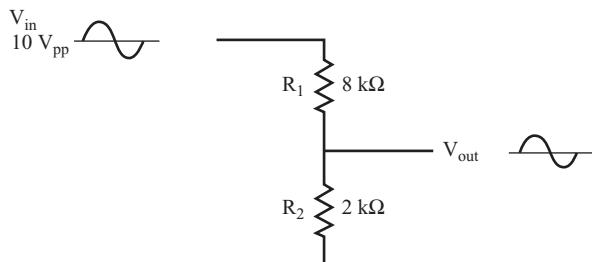

FIGURE 5.5
- 11** You apply an AC signal of 10 V_{pp} to the voltage divider circuit, as shown in Figure 5.5.